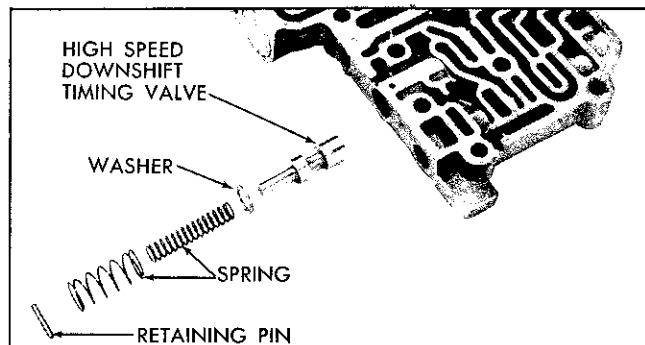

Fig. 7F-23 High Speed Downshift Timing Valve
2. Install modulator limit valve and spring (Fig. 7F-22). Depress spring with needle-nose pliers and install retaining pin.